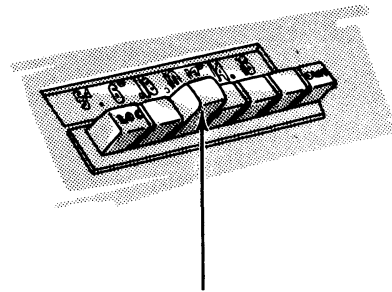

Fig. 10—Push Button Adjustment
7. PUSH BUTTON ADJUSTMENT— MODELS 922, 924 and 851 (Fig. 10)